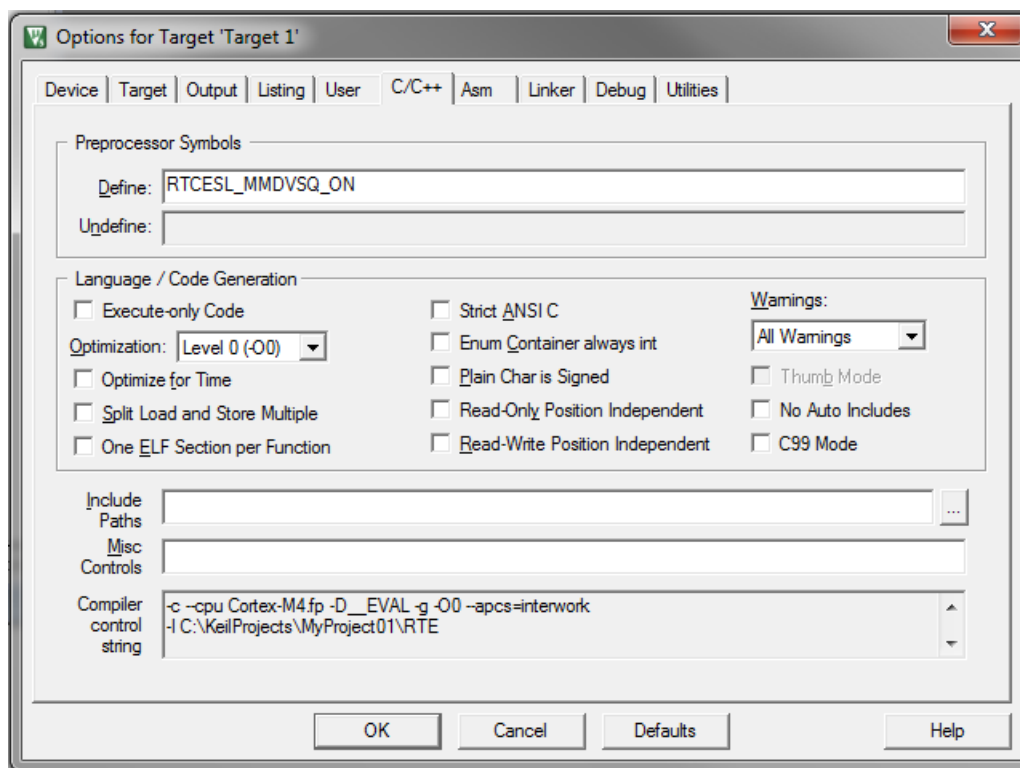

Figure 1-32. Preprocessor symbols
2. Select the C/C++ tab. See Figure 1-32.